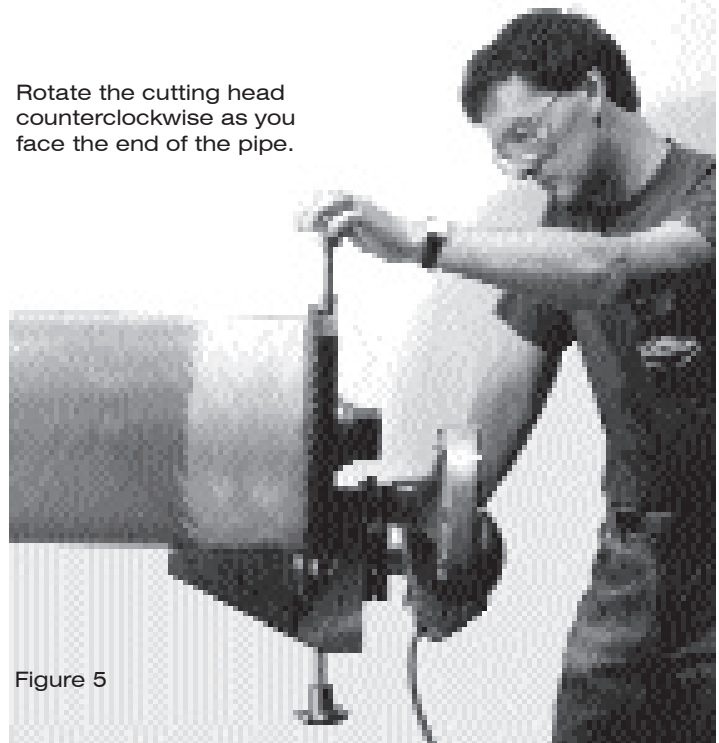

Figure 5
17. A power source may now be connected to the 15/16" square shaft. (See Fig. 5.) The crank handle provided in the tool kit may be used for manual power.
19. All tapering must be done with the cutting head moving counterclockwise as you face the pipe. (See Fig. 5.)